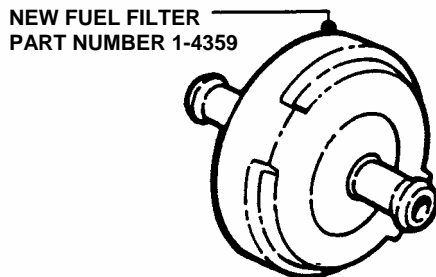

FIGURE 3.15
3. Install new fuel filter part number 1-4359. See Figure 3.15.